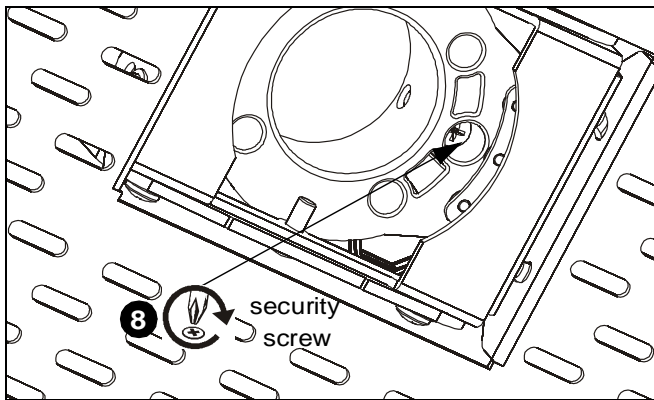

Figure 5
- Tighten security screw until set screw cannot be seen from set screw access hole. (See Figure 5)